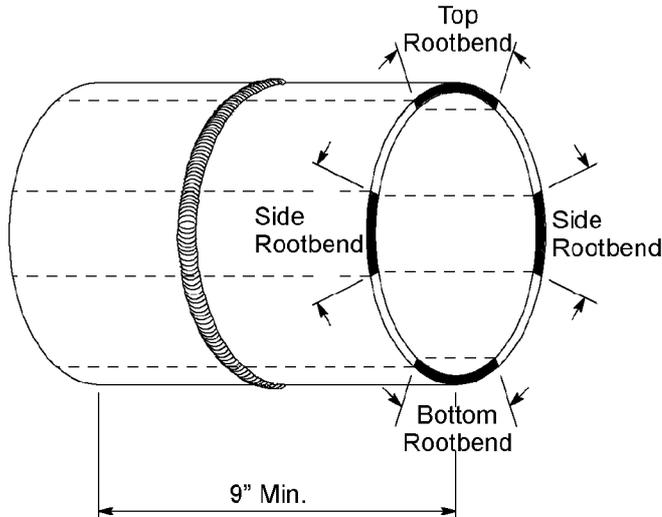
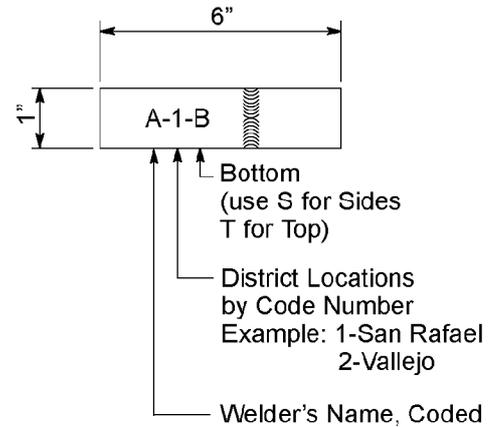

Figure 4
Figure 5
- B. Butt welds which pass the visual inspection shall be destructively tested. Take samples as shown in Figure 4 and Figure 5 on Page 5.